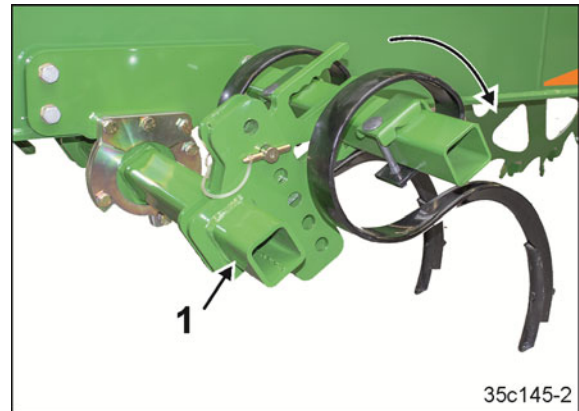

Fig. 238
1. Swivel the tractor wheel mark eradicators into working position (**Fig. 238/1**):
1. Swivel the tractor wheel mark eradicators into transport position (**Fig. 238/1**):